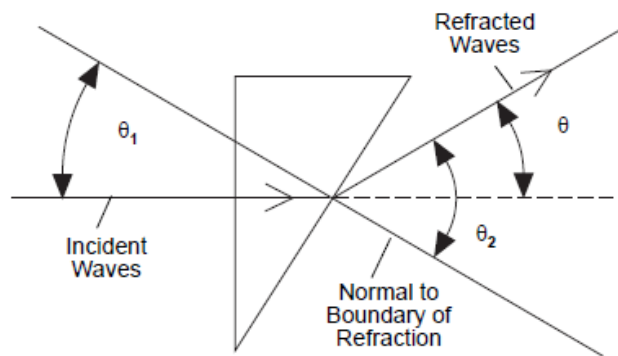

Figure 8: Geometry of prism useful for refraction measurement
5. Align the face of the prism that is nearest to the transmitter so it is perpendicular to the incident microwave beam. See Figure 8 to better understand the alignment of the prism.
10. Using the diagram shown in Figure 8, determine θ_1 . You will need to use a protractor to measure the Prism angles.